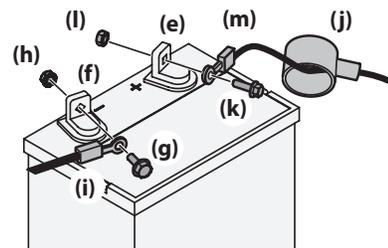

Figure 23
**NOTE:** The positive battery terminal is marked POS. (+) (e). The negative battery terminal is marked NEG. (-) (f) (Figure 23).